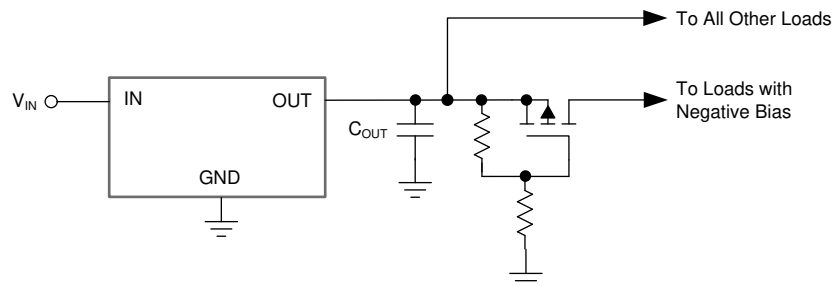

图 8-11. PFET to Isolate the Output from the Load
- Use a PFET to isolate the output of the device from the load causing the negative bias when the device is off, as shown in 图 8-11.